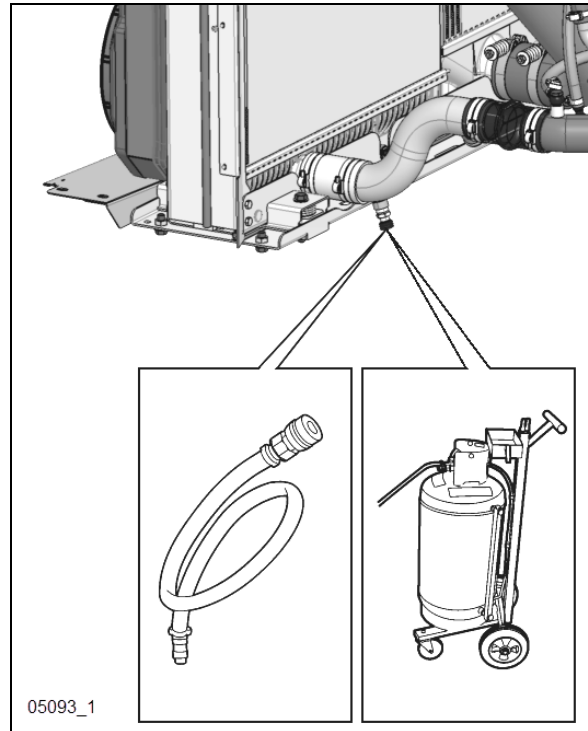

FIGURE 9: EXTRACTING COOLANT
5. Connect coolant extractor (Figure 9). Use coolant extractor to drain the coolant from the engine. An alternate method is to drain the coolant into a suitable container using the drain hose.